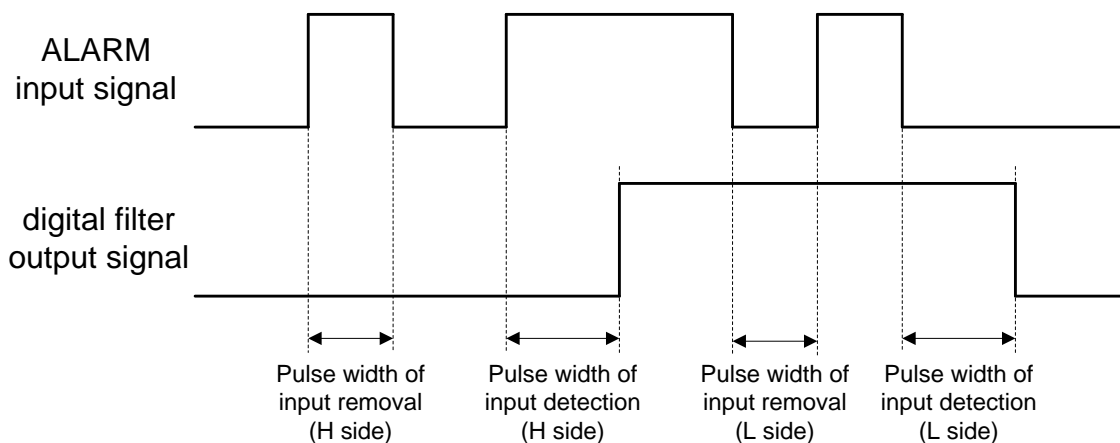

Fig.6-b Pulse width of input removal (with filter) and pulse width of input detection (with filter)
*The pulse width of the input detection (T_{wmin}) means the pulse width which passes through a digital filter and appears to an output. The pulse width of the input removal (T_{wmax}) means the pulse width which is removed by the digital filter (Fig.6-b).